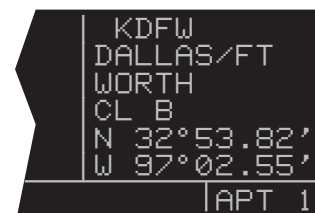

Figure 6-38
1. Select KDFW on one of the airport pages (figure 6-38). If you are operating from an active flight plan you can use the ACT 7 page for KDFW by scanning through the active flight plan (see section 4.2.3).